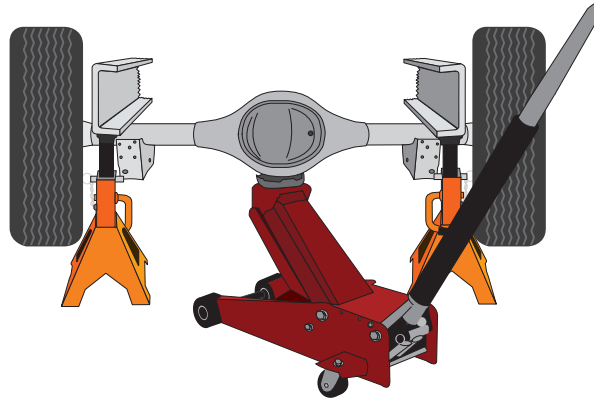

fig. 2
1. Raise the vehicle and support the frame with safety stands. Drop the axle down to make room for the air spring assemblies to be put into position between the frame and axle (Fig. 2).